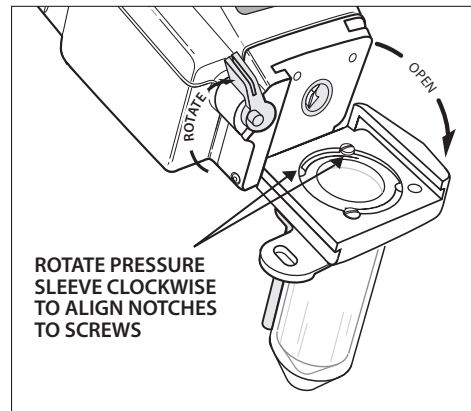

Figure 6-11-1 Replacing the 150 mL Pressure Sleeve
2. Hold the syringe assembly to allow an unobstructed view of the underside of the faceplate as shown in Figure 6-11-1. Rotate the pressure sleeve clockwise to align the notches to the screws.